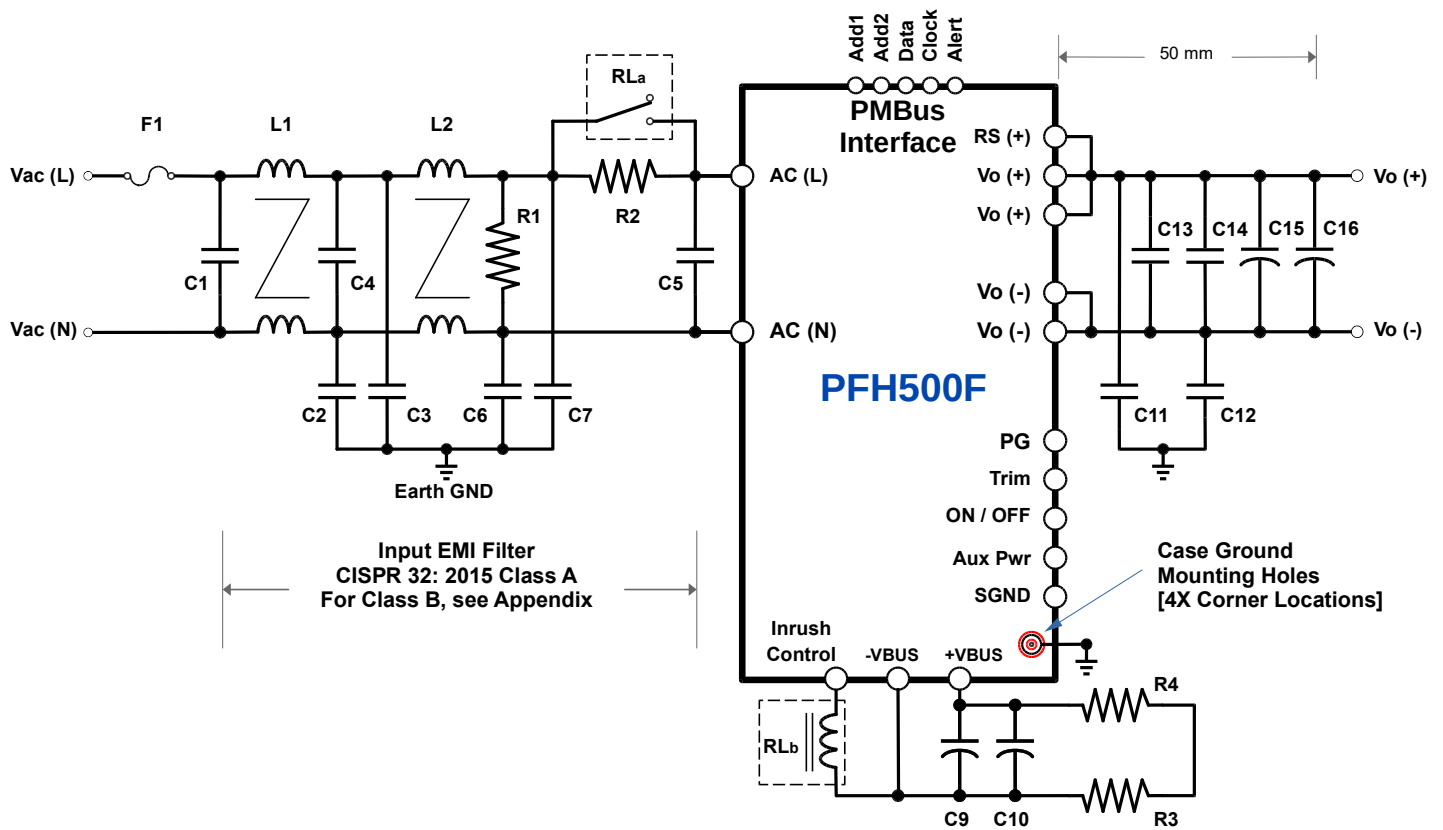

Fig. 5-1 Basic Connection
In order to use the PFH500 series, this module must be connected with external components according to Figure 5-1. Pay attention to the wiring details. If the PFH module is wired incorrectly, the power module may be damaged.
Connect bleeder resistor, R1, across the AC input terminals and connect R3 and R4 in series across C9 and C10 as shown in Fig. 5-1.
3. Bleeder resistors, R3 & R4 (470 k Ω / 2 W), are required to be connected across C9 or C10 to discharge the bulk capacitor voltage to a safe level after power off. Refer to Figure 5-1.
By inserting a ceramic wire wound, thermal fused inrush resistor between the line filter and the input terminal, AC(L) as shown in Fig. 5-1, the inrush current can be limited to a pre-determined level. Proper inrush control is required during turn-on to avoid the external line fuse from being blown, the input circuit breaker from being tripped, the bulk capacitors and/or PFH Series module internal parts from being damaged, and to prevent oscillation between the input inductor and the bulk capacitors.